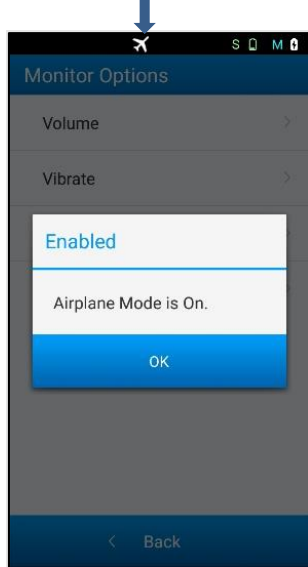
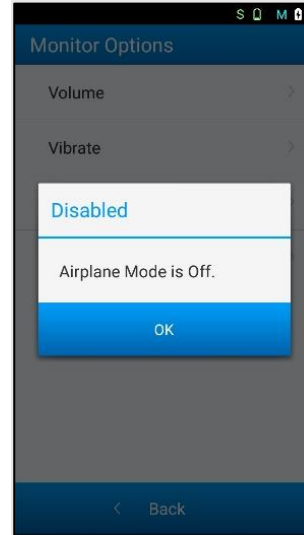

Figure 13.11-4 Airplane Mode Enabled
Figure 13.11-5 Airplane Mode Disabled
- 4) When Airplane Mode is enabled/disabled, a pop-up screen will display indicating it is enabled/disabled. In the enabled mode, an airplane icon on the Status Bar will appear. See Figure 13.11-4 and Figure 13.11-5.